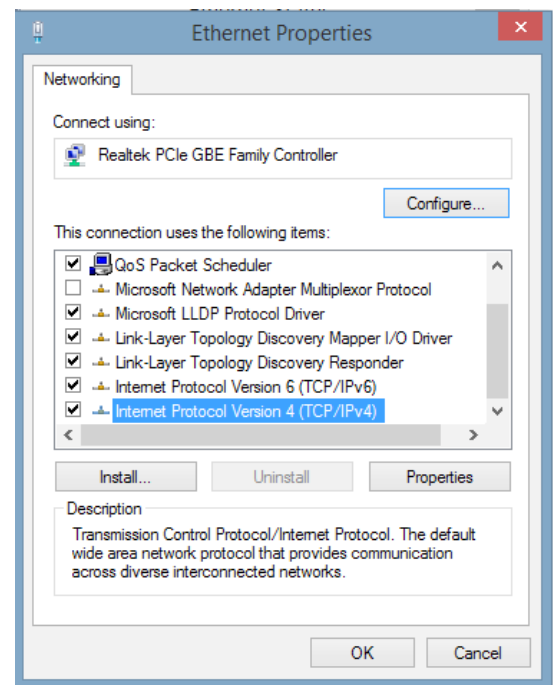

Fig. 2-40, Local Area Connection Properties Screen, Windows 10
6. You will see a dialog box much like Fig. 2-40; click **Internet Protocol (TCP/IPv4)** and then click the **Properties** button.